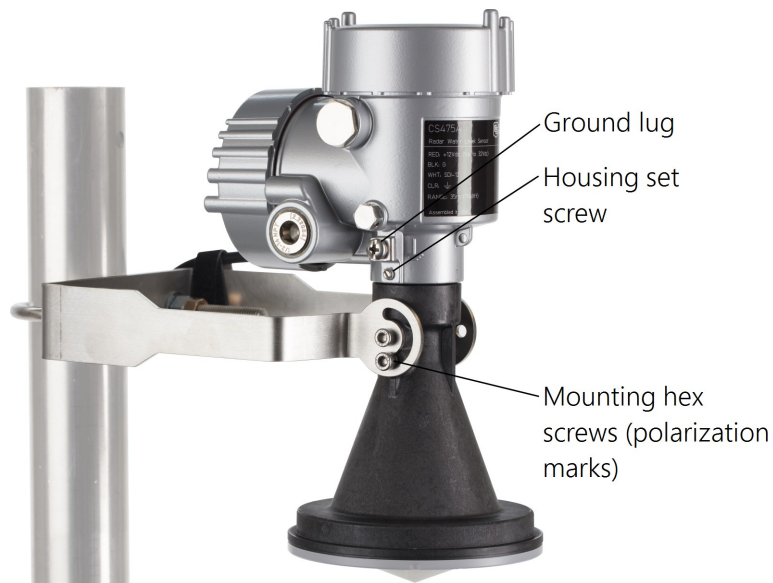

FIGURE 7-4. Housing set screw, mounting hex screws, and ground lug
- a. Loosen the set screw on the housing (FIGURE 7-4 (p. 15)).
5. Connect the sensor ground lug (FIGURE 7-4 (p. 15)) to a local earth ground using at least a 14 AWG wire. Connection to a local earth ground provides better surge or electrostatic discharge (ESD) protection than just grounding it via the sensor cable. While connected to local earth ground, the energy will pass to the local ground instead of traveling through the cable possibly damaging the electronics in the enclosure.